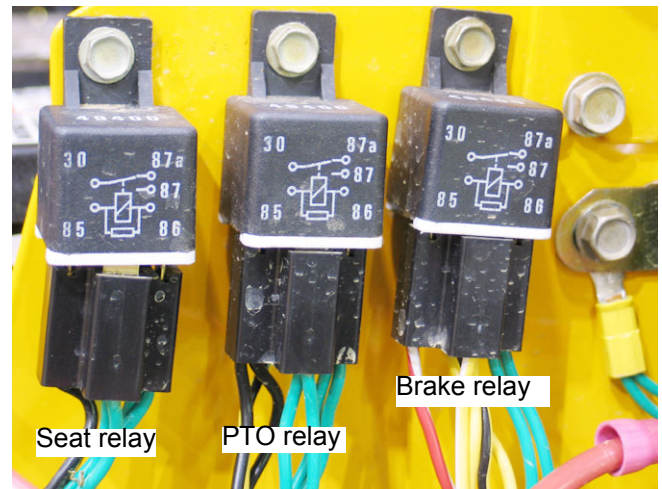

Figure 15.7
15.7. There are three RELAYS in the electrical system of the RZT. They are located under the right side console toward the rear. See Figure 15.7.